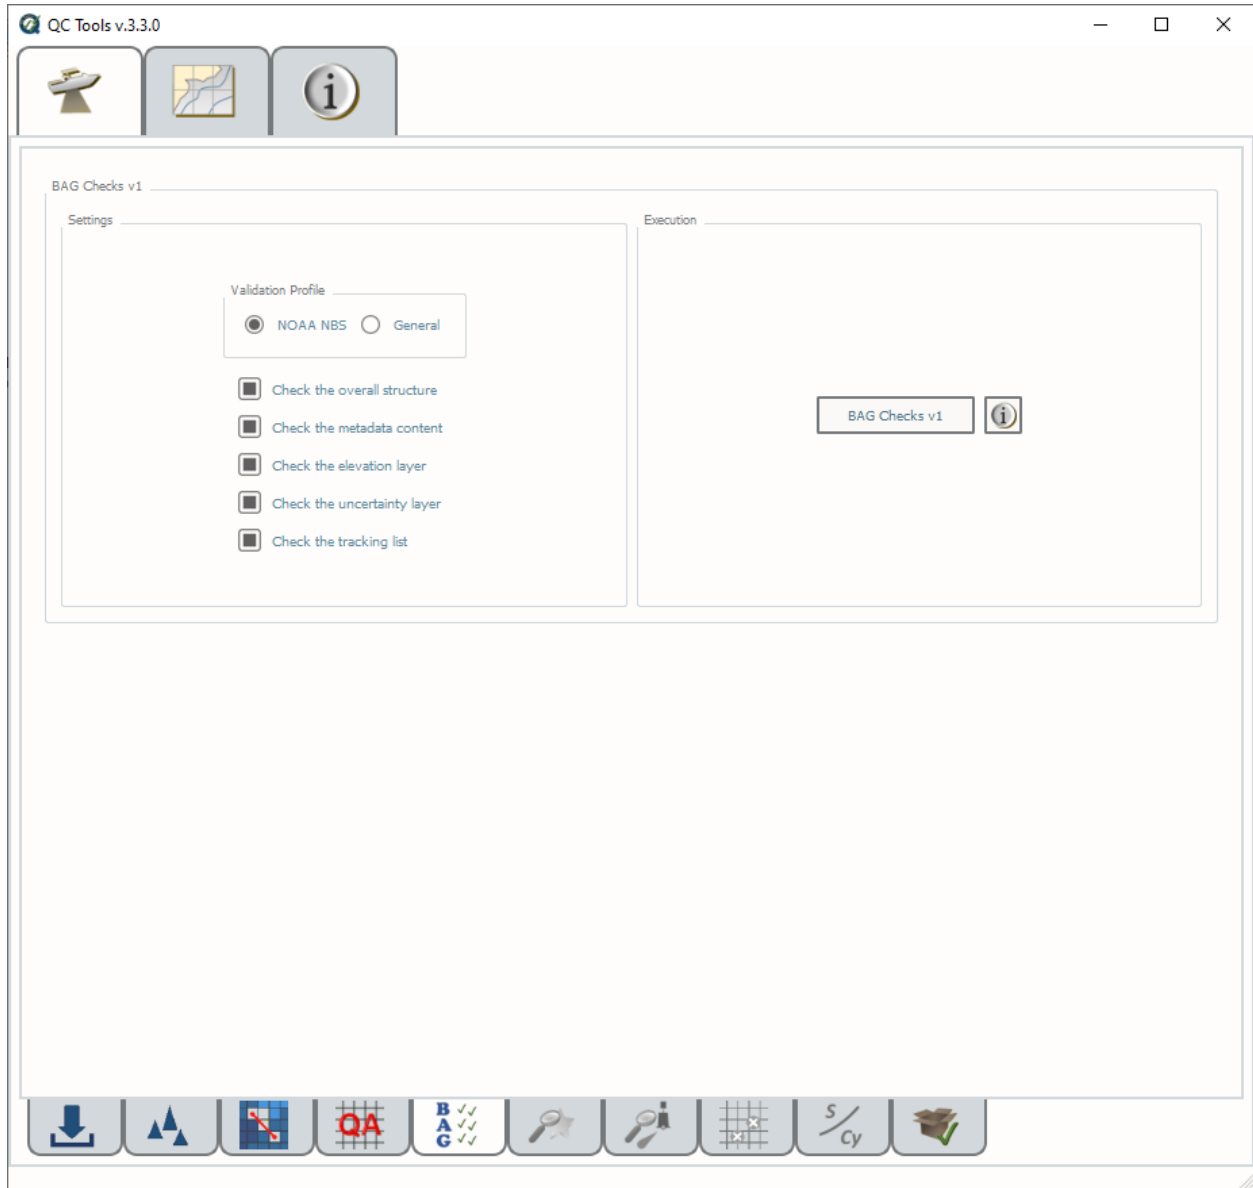

Fig. 2.34: The **BAG Checks** tab.
- Select the **BAG Checks** tab (Fig. 2.34) on the bottom of the QC Tools interface.